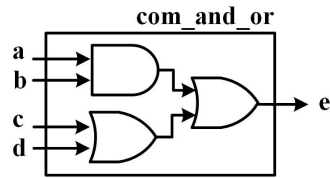
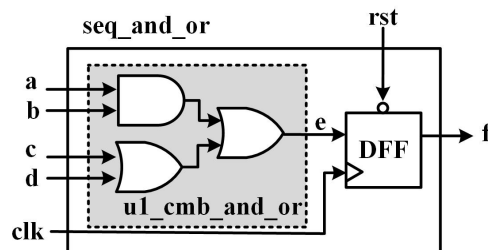

FIGURE 5.9
FIGURE 5.10
1) Design a combinational circuit named “com_and_or” with an AND gate and two OR gates as shown in Fig 5.9. The module should have single-bit input and output signals.
1) Using the project in Fig. 5.9 as a submodule, design a sequential circuit that includes an instantiation of the submodule and a flip-flop, as shown in Fig 5.10. The name of the design module is “seq_and_or”, and all the IOs are single-bit signals. The flip-flop can be triggered by a falling reset edge and a rising clock edge.
1) Design a sequential circuit named “seq_inst_and_or” using the project shown in Fig. 5.9 as a submodule. The circuit should include two submodule instantiations, each consisting of a combinational AND-OR circuit, a single-bit adder, and three flip-flops as depicted in Fig 5.10. All inputs and outputs of the module should be single-bit signals. The flip-flops should be triggered by rising clock edges and falling reset edges.